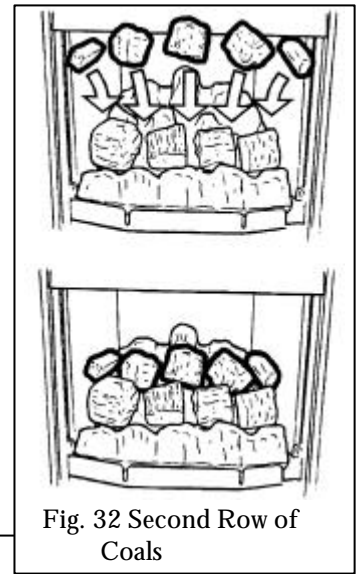

Fig. 32 Second Row of Coals
11.3.2 Place 3 of the medium size coals behind and approximately midway between the large coals as shown in figure 32. Place a "finger" coal at each end of the first two rows of coals. See figure 32.